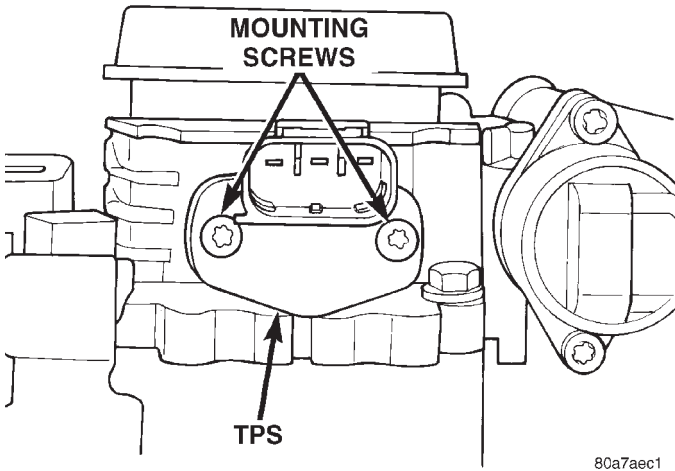

Fig. 25 TPS Mounting Screws—4.0L Engine
- (2) Remove TPS mounting screws (Fig. 25).
- (3) Remove TPS.